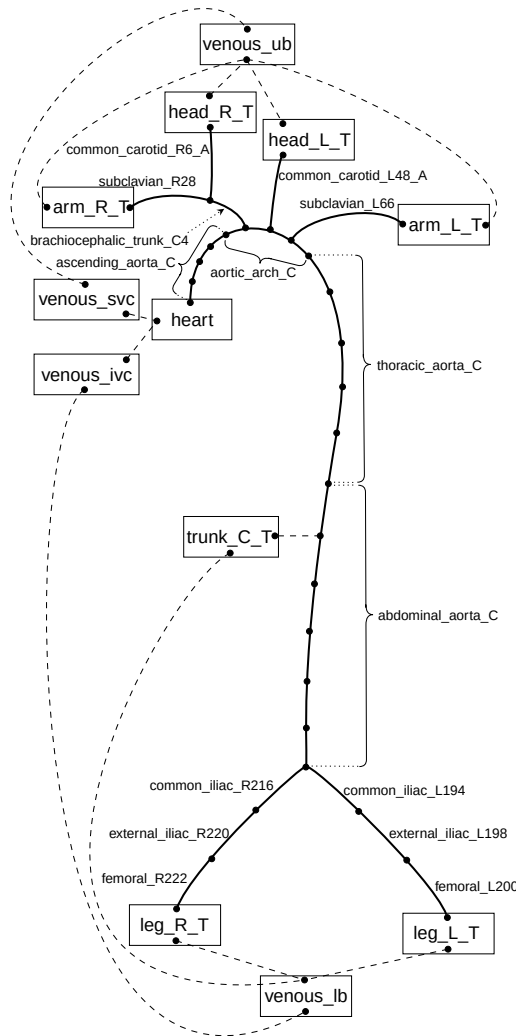

Figure 1: Schematic of the simple physiological CVS model.
- {CA_user_dir}/resources/simple_physiological_nonlinear_visco_vessel_array.csv : This file defines the modules that are used and how they are connected together. Figure 1 shows the model that we will first generate.
Figure 1. A schematic representation of the Hernandez-Hernandez model. The components of the model include major ion channel currents shown in purple including the voltage-gated L-type calcium current (I_{Ca}), nonselective cation current (I_{NSC}), voltage-gated potassium currents ($I_{Kv1.5}$ and $I_{Kv2.1}$), and the large-conductance Ca^{2+} -sensitive potassium current (I_{BKCa}). Currents from pumps and transporters are shown in red including the sodium/potassium pump current (I_{NaK}), sodium/calcium exchanger current (I_{NCX}), and plasma membrane ATPase current (I_{PMCA}). Leak currents are indicated in green including the sodium leak current ($I_{Na,b}$), potassium leak current ($I_{K,b}$), and calcium leak current ($I_{Ca,b}$). In addition, two currents in the sarcoplasmic reticulum are shown in orange: the sarcoplasmic reticulum Ca-ATPase current (I_{SERCA}) and ryanodine receptor current (I_{RyR}). Calcium compartments comprise three discrete regions including cytosol ($[Ca]_i$), sarcoplasmic reticulum ($[Ca]_{SR}$), and the junctional region ($[Ca]_{Jun}$). Red stars (*) indicate measured sex-specific differences in ionic currents.